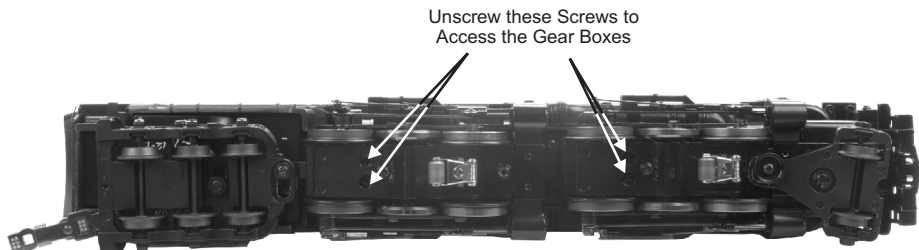

Figure 9: Motor Mount Screws
2. Remove the boiler by removing the body mounting screws shown in Fig. 9